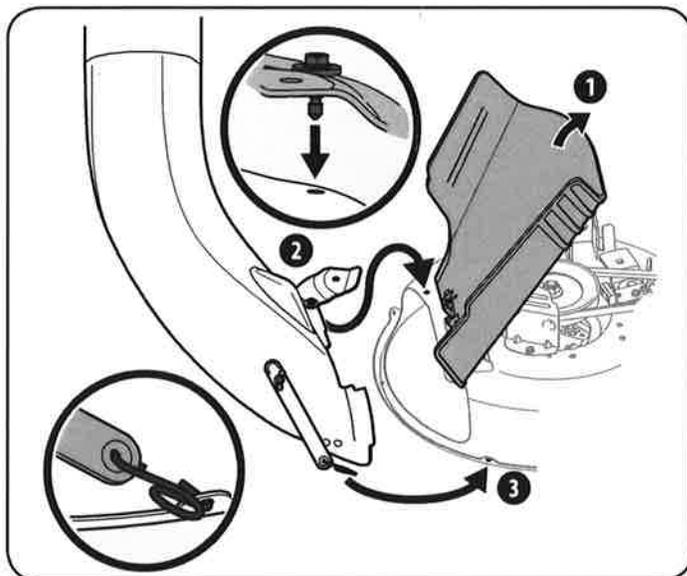

Figure 23
**Note:** On decks without deck wheels, hook the retainer strap into the hole provided in the flange on the front-side of the cutting deck. See Figure 23.